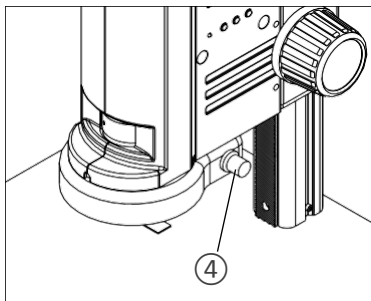
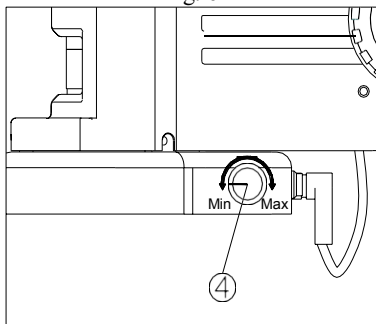

Fig. 6
Fig. 7
- 2) Rotate the light adjustment knob ④ to adjust the illumination brightness. Rotate the light adjustment knob clockwise to raise the brightness, while counter-clockwise to decrease the brightness. (See Fig. 6 & Fig. 7)
- 1) Place the specimen on the base positioned exactly below the microscope. (See Fig. 7)